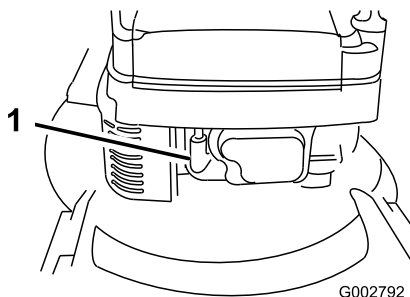

Figure 12
1. Connect the wire to the spark plug (Figure 12).